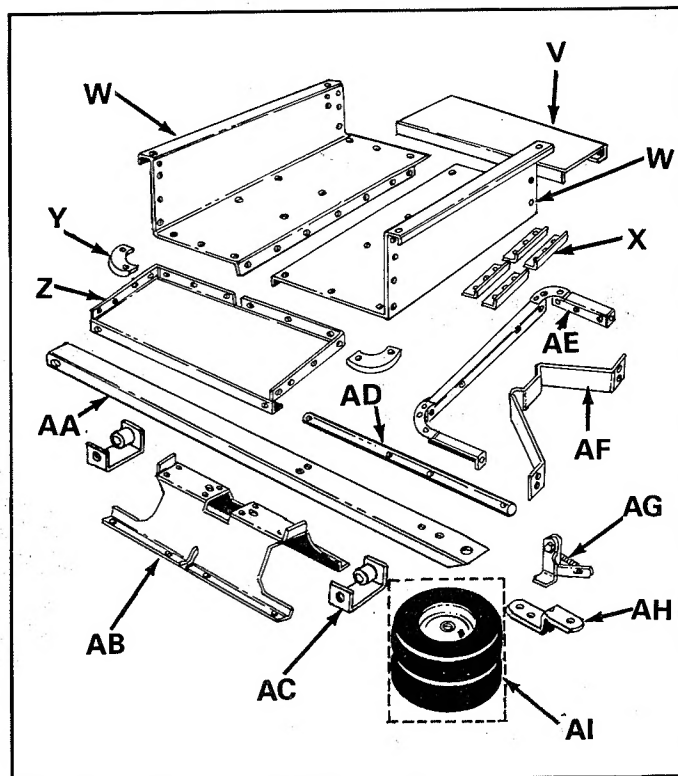

FIGURE 2
## IDENTIFICATION OF LOOSE PARTS (See figure 2)
## LOOSE PARTS (See figure 2)
2. Layout all the parts as shown in figure 2.